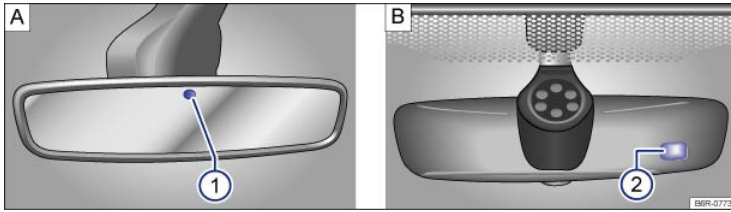

Fig. 97 On the windshield: self-dimming rearview mirror (design may vary depending on vehicle equipment).
When the ignition is switched on, the sensors in the front → Fig. 97① and back → Fig. 97② of the rearview mirror measure the amount of light shining into the vehicle from the rear and from the front, respectively.